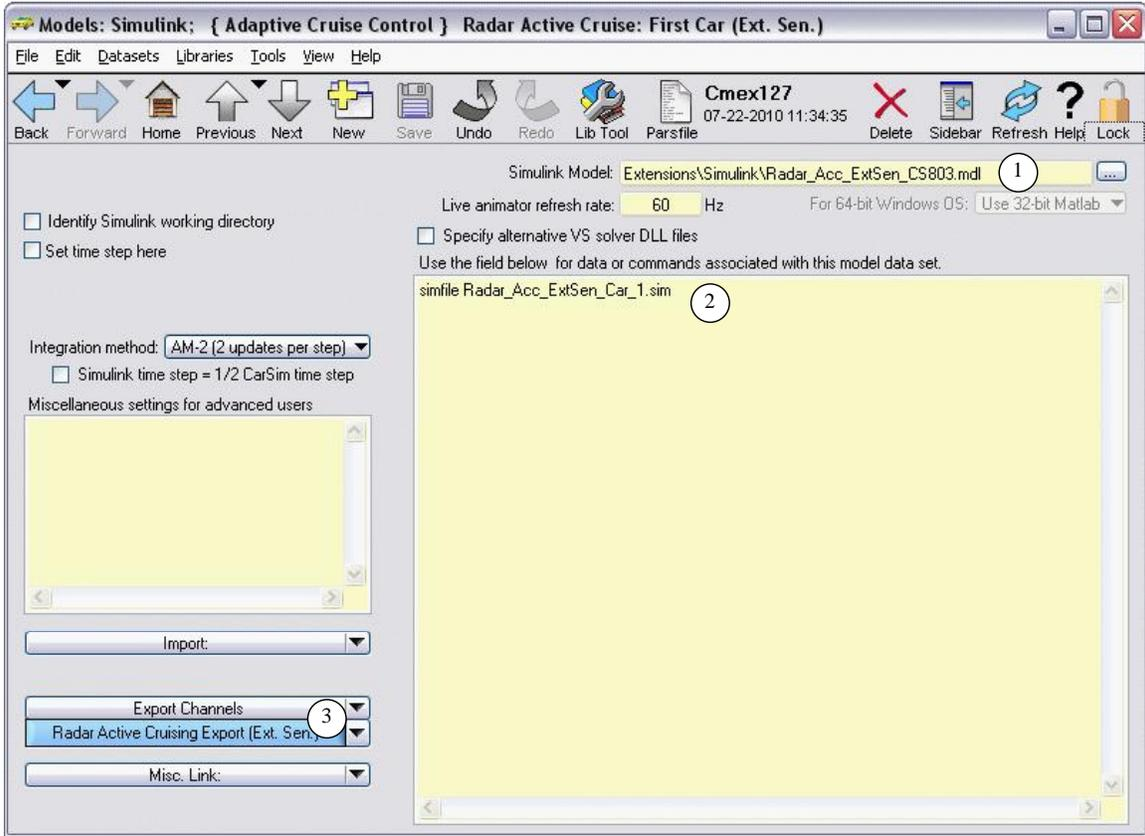
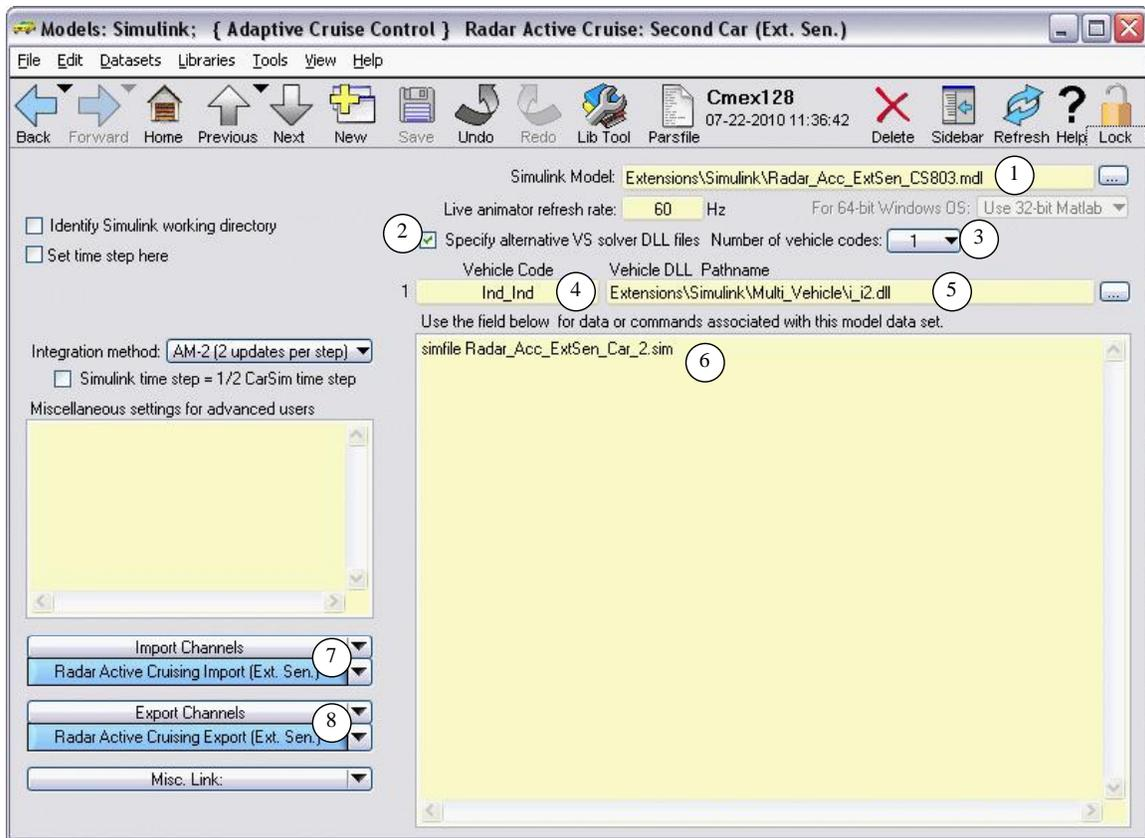

Figure 4. Models: Simulink screen for the first vehicle.
Figure 5. Models: Simulink screen for second vehicle.
Clicking on the link to the Model dataset (3) shows the **Models: Simulink** dataset used to identify the Simulink model from the point of view of the first car (Figure 4).
A different **Models: Simulink** dataset links to the same the Simulink model from the point of view of the second vehicle (Figure 5). This dataset specifies the same Simulink file (1) as the dataset for the first vehicle (Figure 4), but has different settings for the vehicle.
Both vehicles in the simulation have the same configuration: independent front and rear suspensions. In order to allow two independent vehicles to run simultaneously, a copy of the `i_i.dll` file was made, with the pathname shown (5) (Figure 5).
4. Each **Models: Simulink** dataset should specify a uniquely named simfile, using the `simfile` keyword to specify the name as shown in Figure 5 and Figure 4.